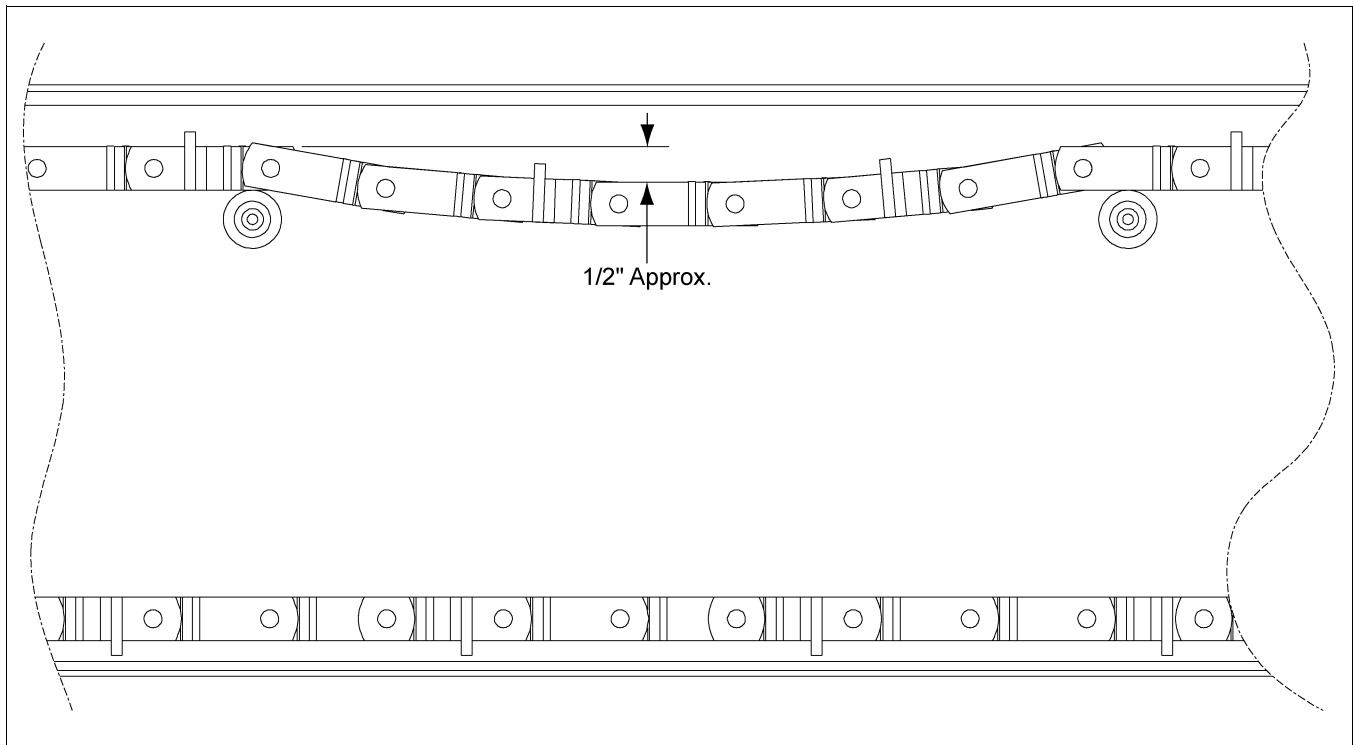

Figure 6G
Tighten the drag chain assembly using the take-up screws located on each side of the tail section or on the take-up head. On conveyors with roller returns, the chain is at the proper tension when a maximum of 1/2" deflection occurs at a point midway between the rollers. (See Figure 6G.) On conveyors with slide rail returns, the chain should be able to be lifted slightly when sufficiently tightened. After the chain is tight, check that the head and tail shafts are square to the box sides. If the shafts are not square, loosen the tighter of the two (2) adjuster screws until the shafts are square. Lock the adjuster screws by tightening the hex nuts against the cross-ways "C" channel.